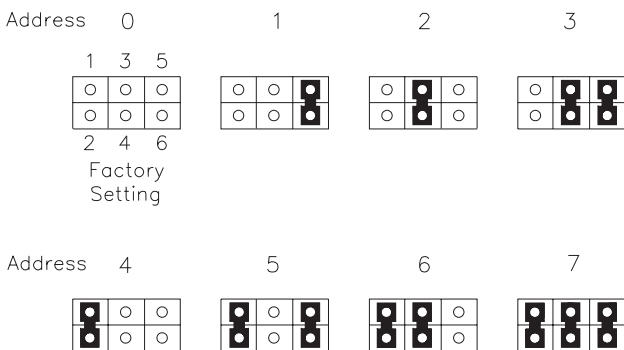

Figure 3 Jumper settings for the tape drive's SCSI ID
2. Install the jumpers on the jumper block to obtain the correct SCSI ID for your configuration. Figure 3 shows how to position the jumpers for SCSI IDs 0 through 7.
5. Change the settings on the remote switch to the correct SCSI ID for your configuration. The switch settings should emulate the jumper positions shown in Figure 3.